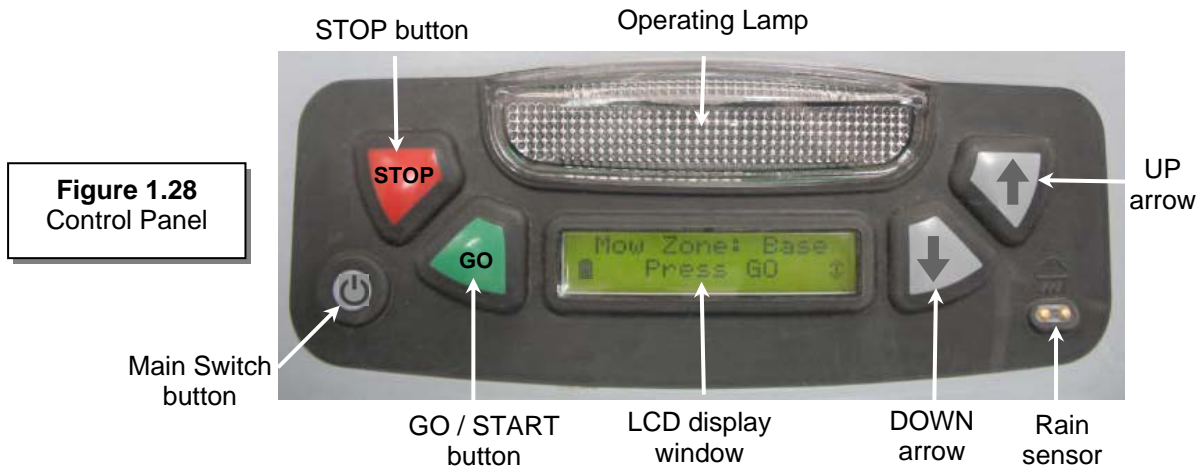

Figure 1.28
- On the top of the rear side of Robomow there is a control panel. The control panel consists of a display, keypad and operating lamp (figure 1.28).